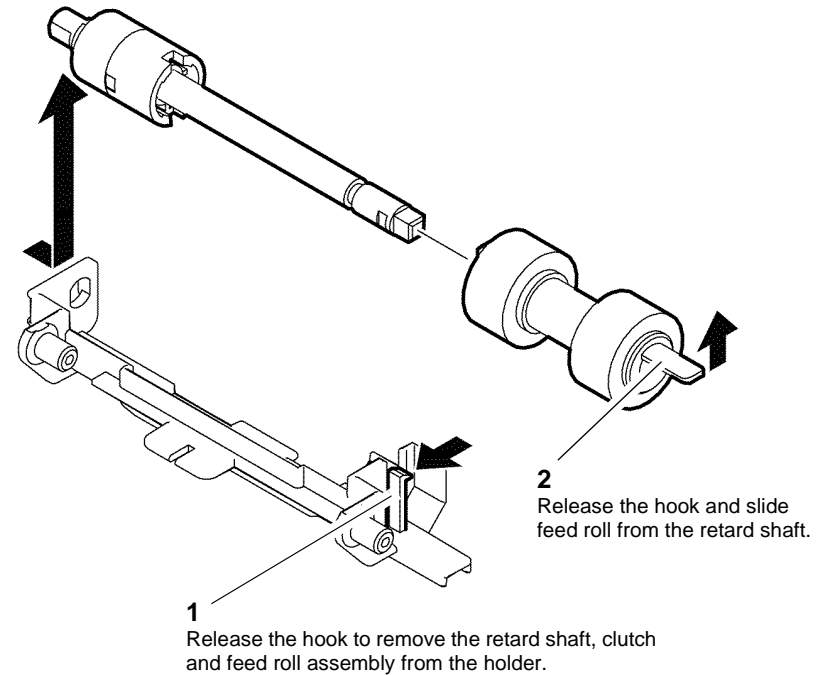

Figure 2 Feed roll assembly
3. Remove the feed roller assembly, Figure 2.